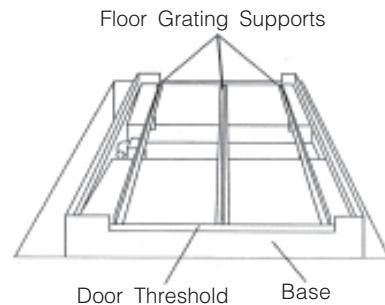

Figure 3-3. Install Floor
- b. Connect the base pieces by installing the floor grating supports down the center of the base and on either side of the door threshold (see Figure 3-3).